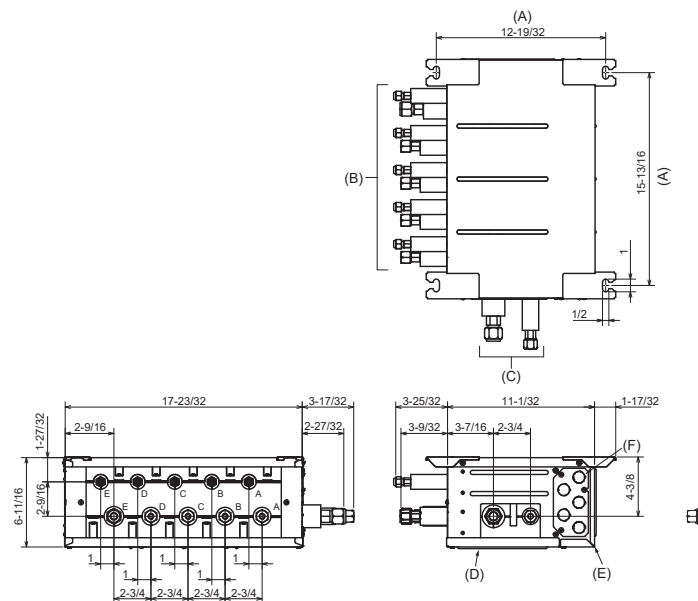

Fig. 4-3
- (A) Suspension bolt pitch
- (B) To indoor unit
- (C) To outdoor unit
- (D) Service panel
- (E) Electric cover
- (F) Conduit plate
- (G) Terminal block (to indoor unit on Controller board)
- (H) Terminal block (to outdoor unit)
- (J) Terminal block (for communication cable)
■ PAC-LMA50BC/PAC-LMC50BC (Fig. 4-3)